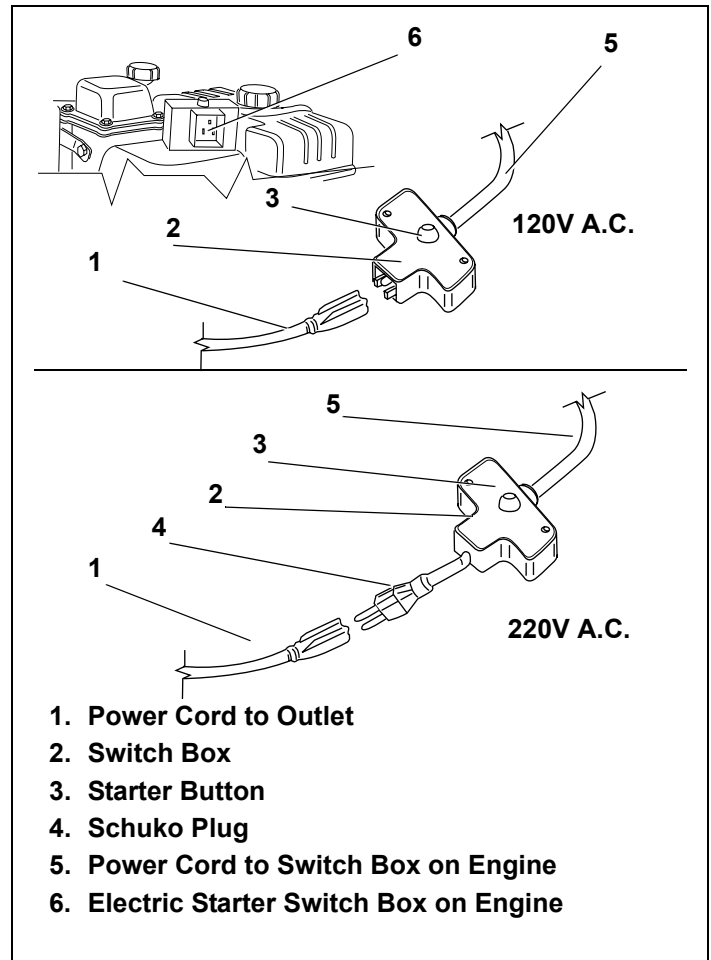

Figure 20. Electric Starter Connections
When connecting power cord, always connect power cord to switch box on engine first; then into outlet. See Figure 20.
- Connect power cord to switch box on engine. See Figure 20.
When disconnecting power cord, always disconnect power cord from outlet first; then disconnect power cord from switch box on engine. See Figure 20 on page 10. Afterward, continue reading instructions below.
13. Disconnect power cord from outlet. See Figure 20 on page 10. Afterward, continue reading instructions below.
14. Disconnect power cord from switch box on engine. See Figure 20 on page 10. Afterward, continue reading instructions below.